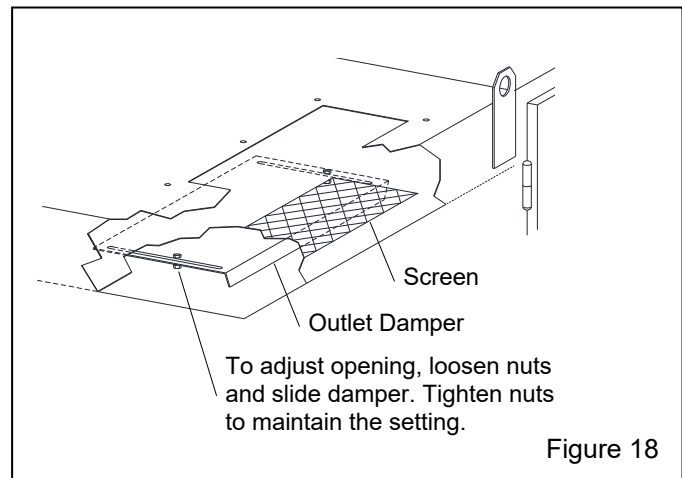

Figure 18
**5.4.2** Adjust static pressure by opening or closing the outlet damper located above the reclaimer on the underside of the underside of the power module top, as shown in Figure 18. If the damper is not opened far enough, the reclaimer will not remove fines, resulting in dusty media and poor visibility, or will not convey media, causing media buildup in the hose between the cabinet hopper and reclaimer. If the damper is opened too far, it may cause carryover (usable media carried into the dust collector) and result in excessive media consumption. Open only as far as necessary to obtain a balance of maximum dust removal without media carryover.